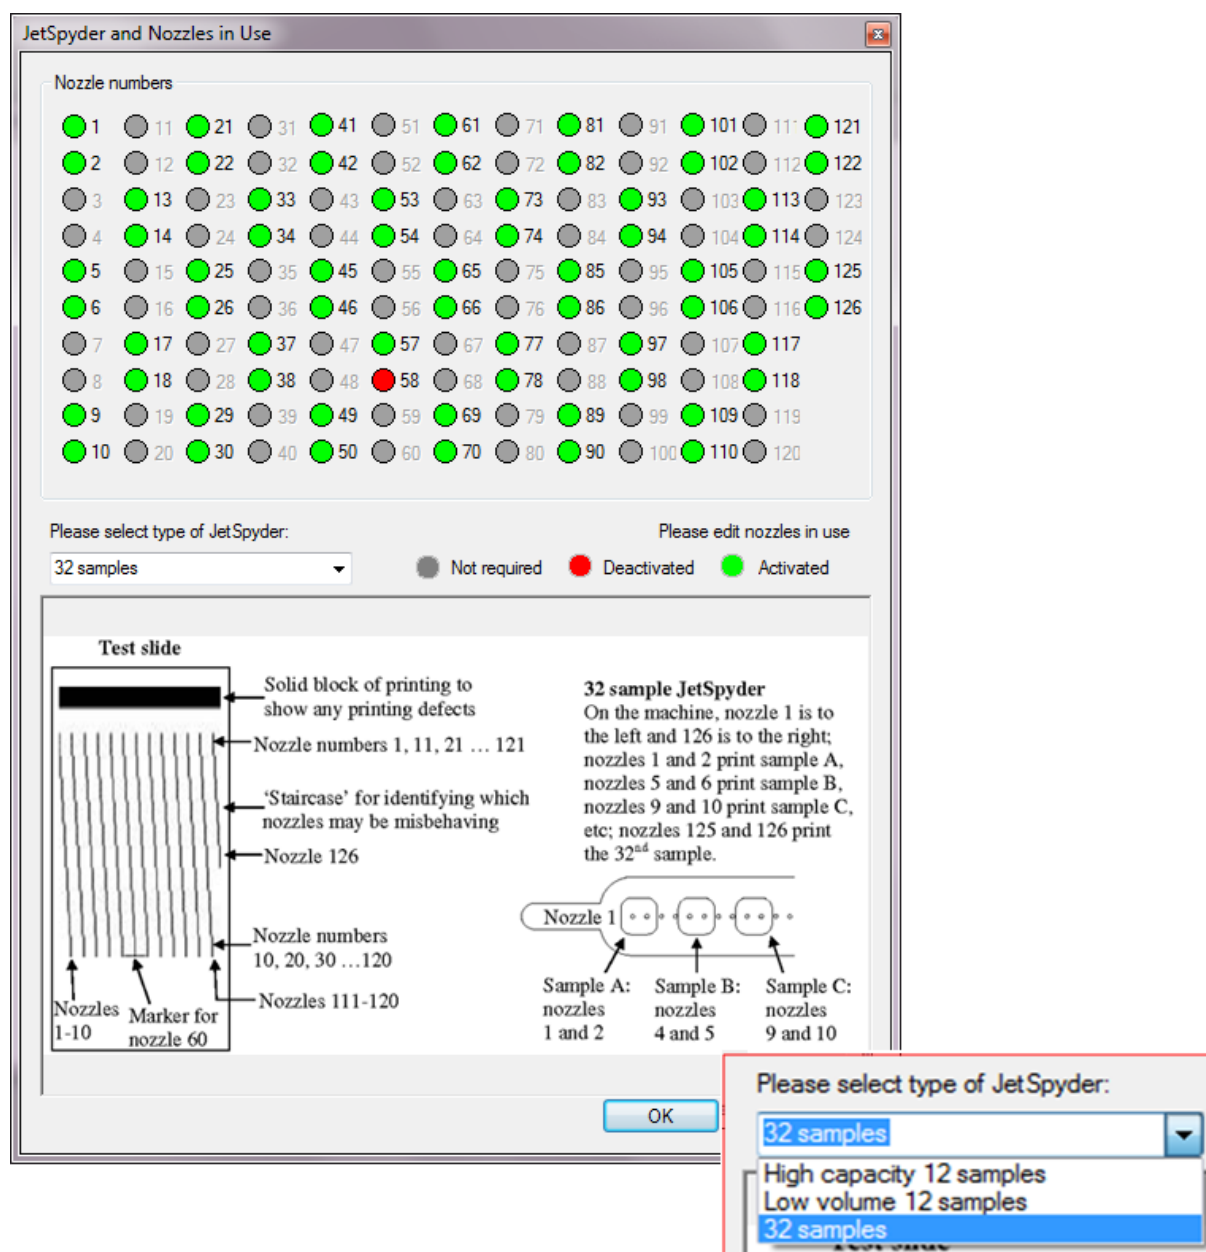

Figure 6-16 JetSpyder and Nozzles in Use window
- Select the JetSpyder type as shown in Figure 6-16;
- By selecting the appropriate nozzle on the **Nozzles in Use** window deactivate any nozzles which are not performing well (**Figure 6-16**); In this case nozzle 58.